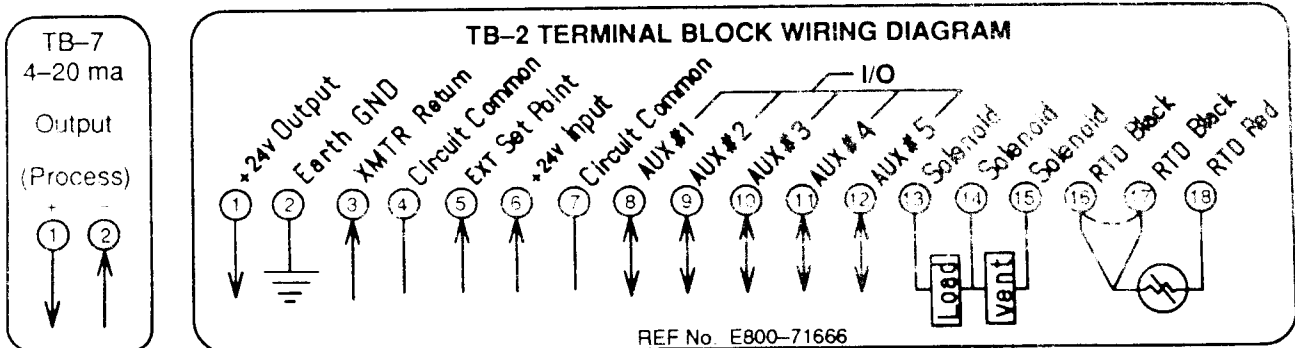

FIGURE 2
1. After mounting the EPC-1 at the desired location, open the cover by loosening 5 screws and the thumb screw. Then remove the field wiring panel by loosening two captive screws. The terminal block wiring diagram shown in Figure 2 appears on the back of the panel. Power and signal lines should be routed through separate conduits to avoid interference. Transmitter or RTD signal lines should use shielded cable grounded at terminal 2 in insure against RF interference.
- b) Check fuse (F1 in Figure 2).